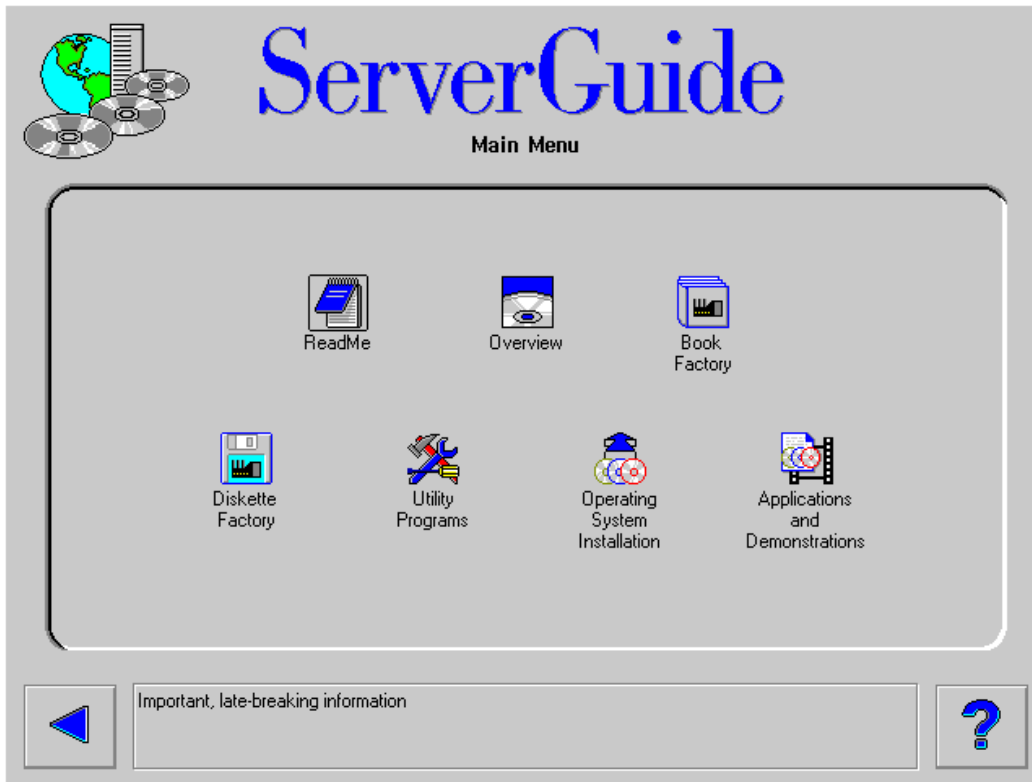

Figure 48. ServerGuide 3.0 Main Menu
- At this point, the main menu is displayed (Figure 48 on page 74).
From the main menu (Figure 48 on page 74), you can select a number of different options: